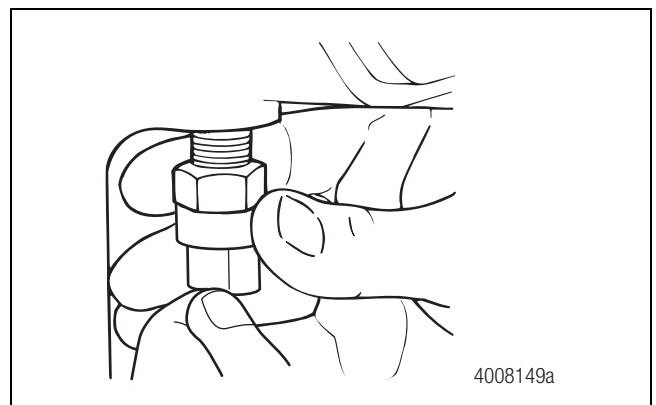

Figure 6.8
10. Loosen the switch lock nut. Unscrew the switch and remove it from the housing. Figure 6.8.